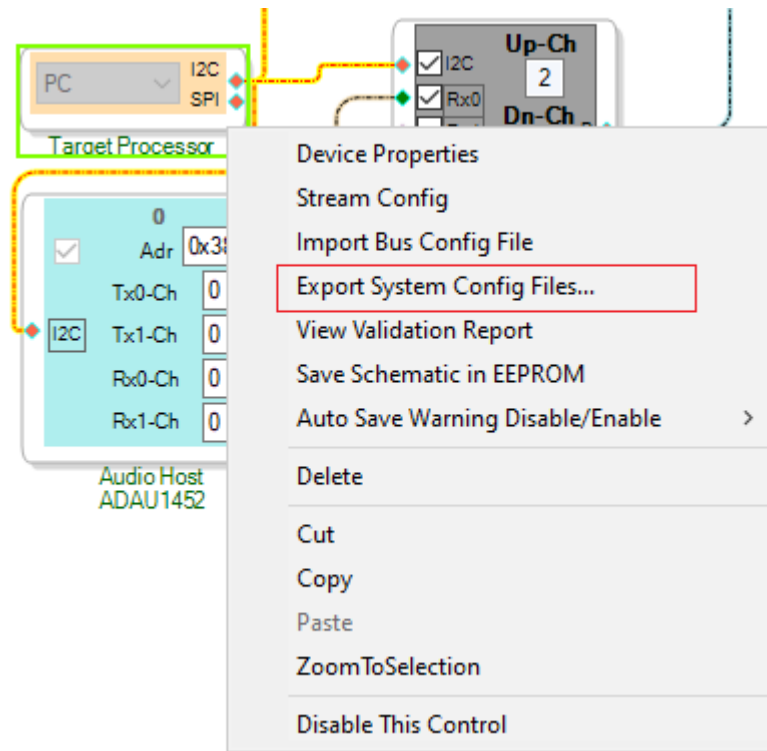

Figure 38: Exporting system configuration
3. Right click on Target processor and select 'Export System Configuration Files...' option as shown in Figure 38.